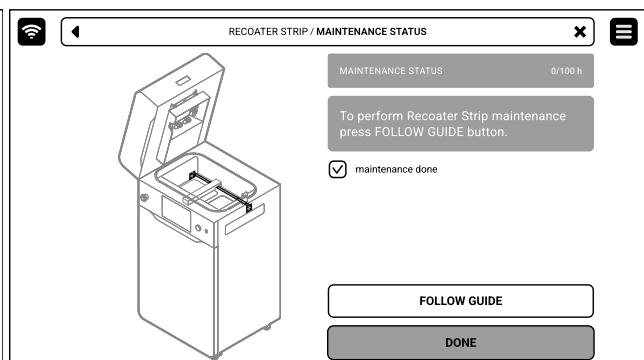

Fig. 13.15 The screen of the maintenance of the Recoater (roller and cord).
3. In this case, mark **MAINTENANCE DONE** once you have completed the procedure, and then the **DONE** button. The timer will reset to zero (fig. 13.15).